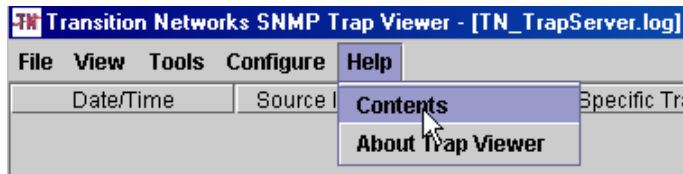

Figure 31: Accessing Trap Viewer Help Files
2.	Select item “Trap Viewer” to launch the Trap Viewer window shown in Figure 31.
3.	On the “Trap Viewer” window select [Help] [Contents] as shown in Figure 31, to launch the trap-server help screen.